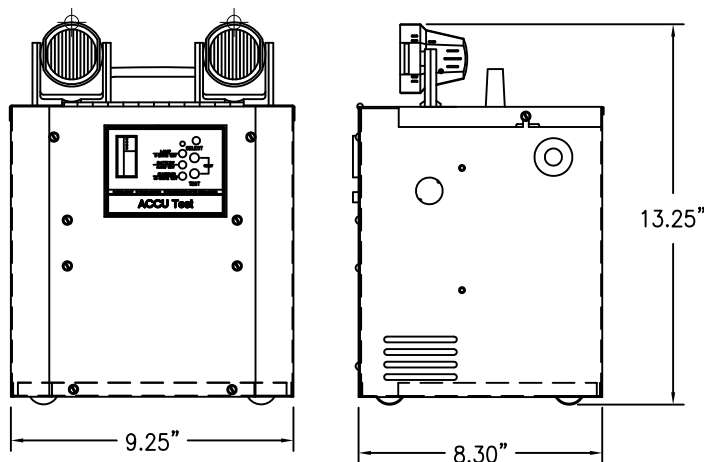

FIGURE 1
1. Loosen screw on each side of cabinet to enable cover to pivot exposing interior. (See fig. 1)